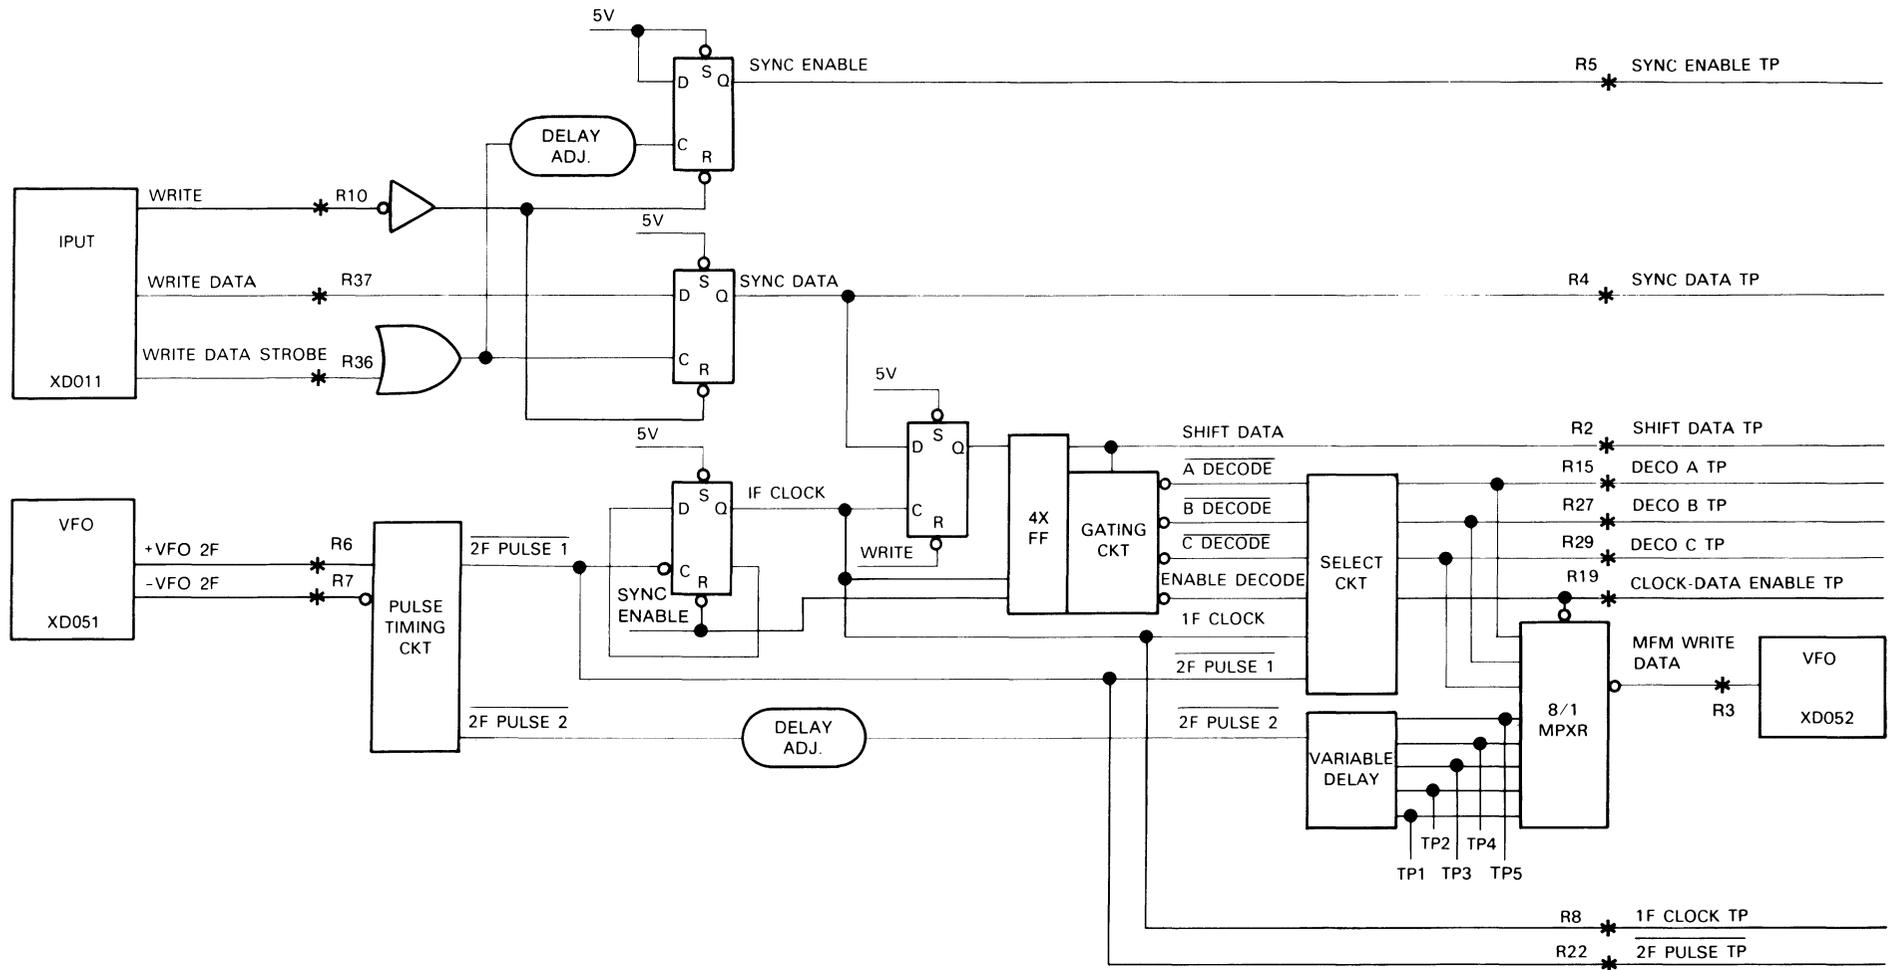
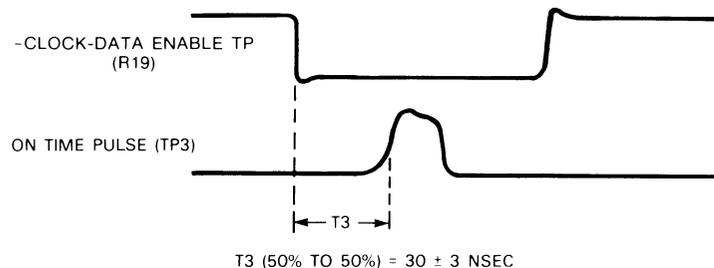

FIGURE 3-7. PRECOMPENSATION PCB (PRCO PCB, D03 LOCATION)
FIGURE 3-8. ON TIME PULSE TIMING
- The block diagram of PRCO logic is shown in Figure 3-7.
To satisfy PRCO performance specifications, timing requirements of DCL input signals to PRCO exist, and PRCO output signals are factory adjusted to eliminate any write precompensation error. Input requirements are summarized in paragraph 3.3.3.3. Output requirements, met at the factory, are summarized below for descriptive purposes and possible customer use in precompensation checking. Refer to the block diagram of PRCO test points in Figure 3-7. Only inputs \pm VFO 2F are ECL levels; all other input and output signals, including Test Points, are TTL levels.
On Time Pulse Timing. The on time pulse (shown in Figure 3-7 as TP3) is adjusted such that its leading edge occurs 30 ± 3 nsec after the trailing edge of -CLOCK-DATA ENABLE TP (pin R19). Figure 3-8 shows this requirement.
Precompensation Delay Line Timing. Refer to test points TP1 through TP5 shown in Figure 3-7. The pulses at TP1/2/4/5 must have the following timing relationships between their leading edges and the leading edge of the on time pulse at TP3: